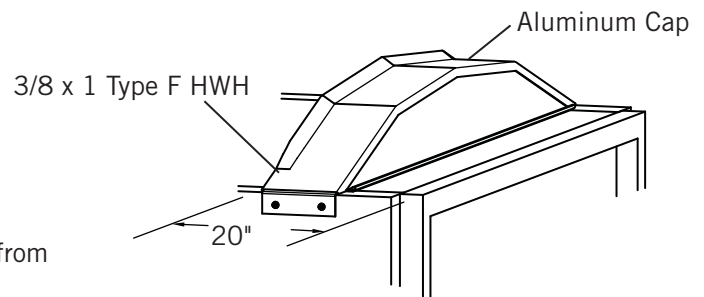

Figure 20
- 1) Figure 20.** Position aluminum rear cap on top rail centered on width, locate the front edge of cap 20" from outside of tailgate.